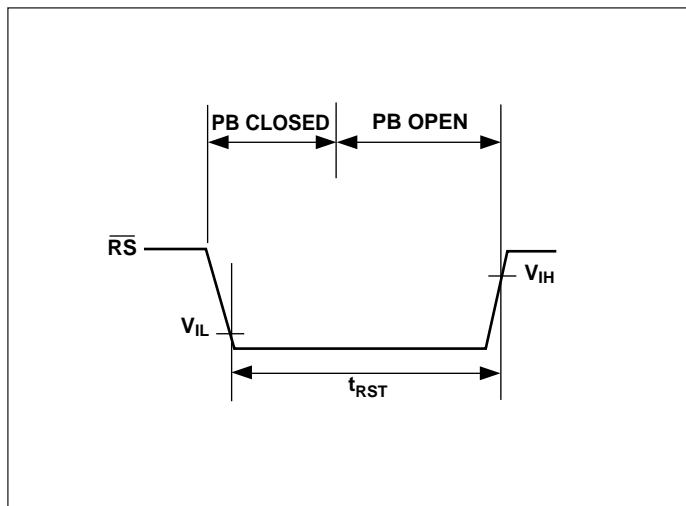

Figure 2. RS Pulled Low by Push-button Reset
A built-in debounce circuit allows a push-button switch (PB) or other electronic signal to be wire-ORed to this pin as an external \overline{RESET} override control. The external \overline{RESET} is required to be an active low signal. Internally, this input is timed to provide a minimum \overline{RESET} pulse width of 500msec. Reference Figure 2.